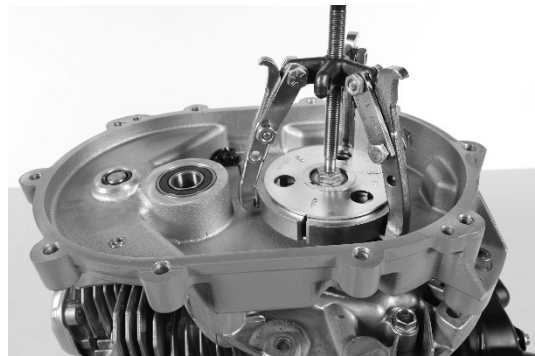

FIGURE 38
6. Using gear puller, remove clutch rotor/shoe assembly. FIGURE 38